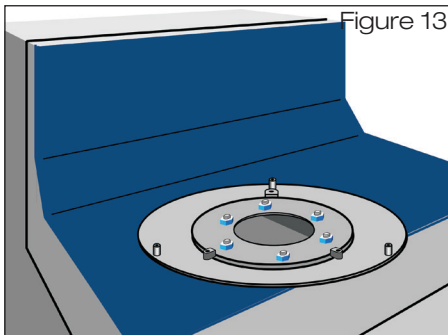
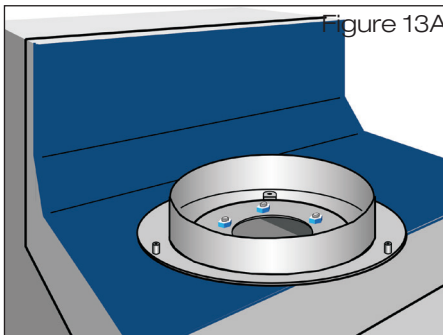

Figure 13
Figure 13A
2.5 Place the base plate on the roof sealing sheet. Clamp the roof sealing sheet with the base plate, loose flange and the screws provided (Fig. 13). In case of emergency drain, place weir on base plate (Fig. 13A). Tighten the enclosed screws using an AF 19 open-ended or ring spanner, working criss-cross. Tightening torque: 20 Nm. **According to the sealing regulations (flat roof regulations, edition October 2008), the nuts of the flange connections must be tightened 3 times.**